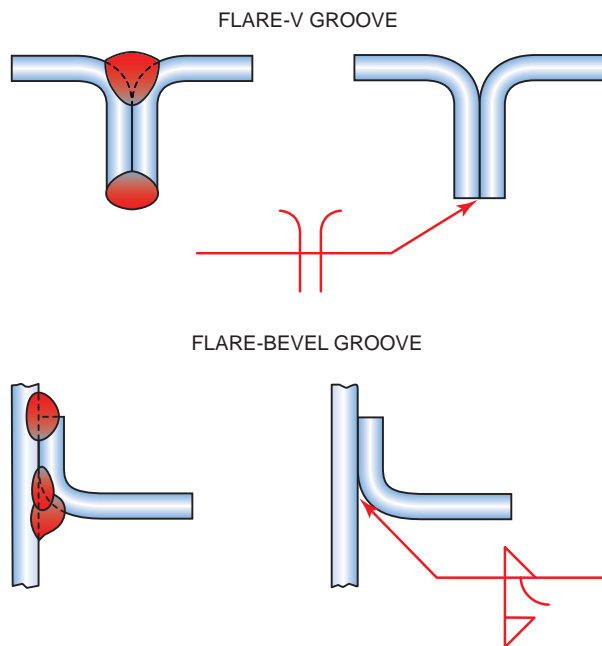

FIGURE 5-29 Designating flare-V and flare-bevel groove welds. American Welding Society
- The size of flare groove welds is considered to extend only to the tangent points of the members, Figure 5-29.